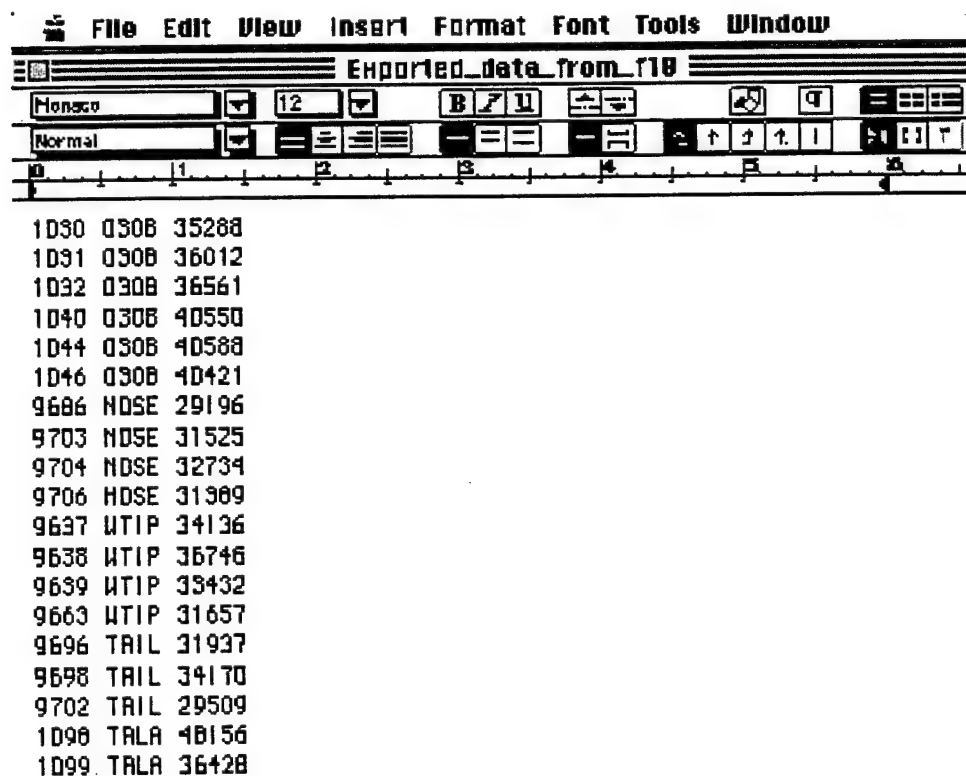

Figure 3.18: Exported data file viewed in Microsoft Word
8. Select **Open** from the **File** menu. Find the data file you just created via the "Open" dialog box of **Word**. Open the file. The data file you opened should look like Figure 3.18. Notice that each line of text contains a shot number, followed by a "tab", followed